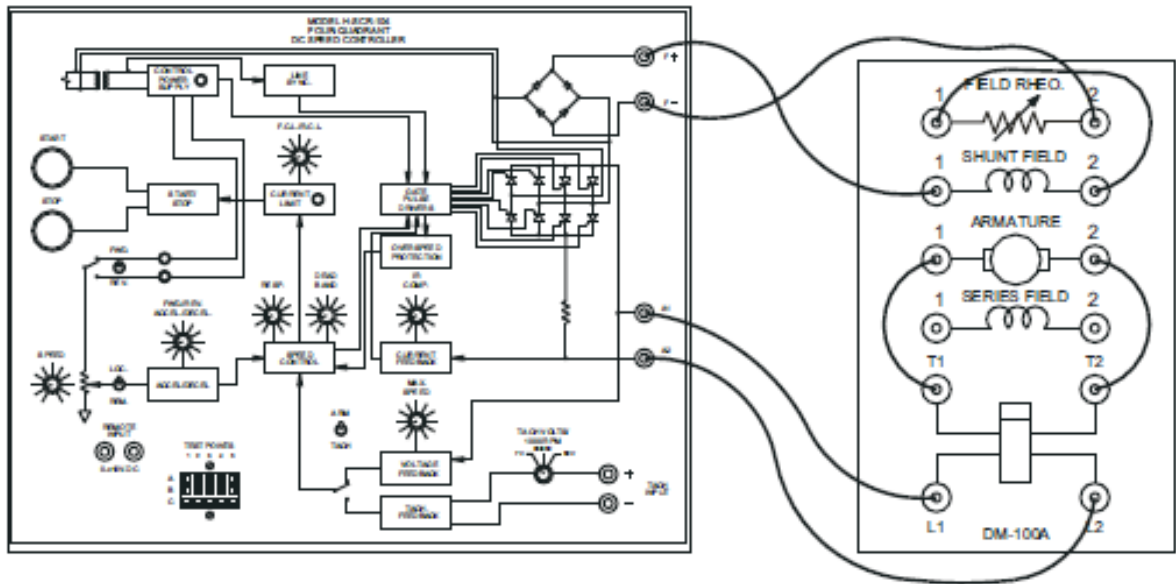

Figure 1-1
Step2: Connect one voltmeter (0–150 volts) across the armature and the other (0–15 volts) between test points A4 (+) and A1 (–) as shown in Figure 1-1.
Step3: Plug in the H-SCR-104. Turn the MAX SPEED knob fully clockwise and the SPEED KNOB fully counterclockwise. Be sure all fault switches are off, the feedback switch is in the ARM position, and the speed control switch is in the LOCAL position. The motor's field rheostat should be fully counterclockwise to its minimum resistance position. Set the IR, DEADBAND (DB), ACCEL/DECEL, RESP and CL knobs to their respective mid-positions.